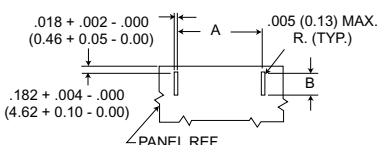

Figure 4
(see Figure 4)
3. Figure 4 is for edge board mounting bracket or edgeboard clip assembly. The .184 ± .002 (2.67 ± 0.05) dimension locates the MD socket insulator flange with the end of the board.